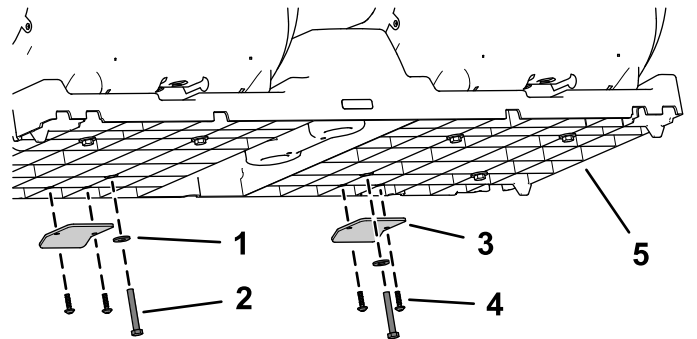

Figure 4
1. Remove the 4 torx-head screws from the seat-retainer brackets, and the 2 flange-head bolts and 2 washers closest to each bracket (Figure 4).
2. Remove the 2 seat-retainer brackets from the seat-base assembly (Figure 4).